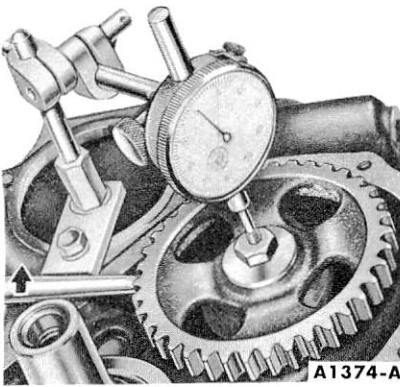

FIG. 25—Camshaft End Play
15. Push the camshaft toward the rear of the engine. Install a dial indicator so that the indicator point is on the camshaft sprocket cap screw (Fig. 25). Zero the dial indicator. Position a large screwdriver between the camshaft sprocket and the block. Pull the camshaft forward and release it. Compare the dial indicator reading with specifications. If the end play is excessive, replace the thrust plate.